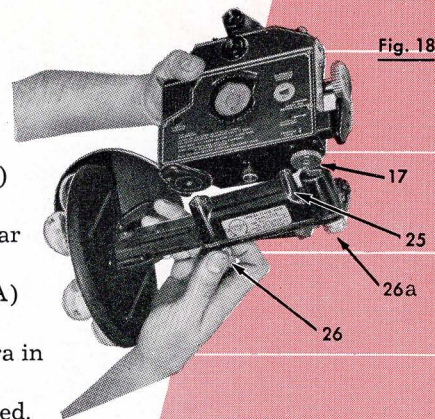

Fig. 18
The flash gun is fastened to the camera by means of a screw which engages the thread otherwise used for the tripod. This screw can be rotated by a small knob (26). See Fig. 18. When the flash gun is attached to the camera, attention must be paid to a small pin (25) which engages a corresponding hole located near the film winding knob. This pin keeps the flash gun from rotating. The gear mechanism is engaged to knob (17) by means of two prongs which enter corresponding holes within knob (17). A knurled knob (26A) permits the rotating of knob (17) after the flash gun has been attached to the camera. It is, therefore, possible to load the camera in the customary way without detaching the flash gun. Instead of turning knob (17) for the initial film winding, knob (26A) is used.